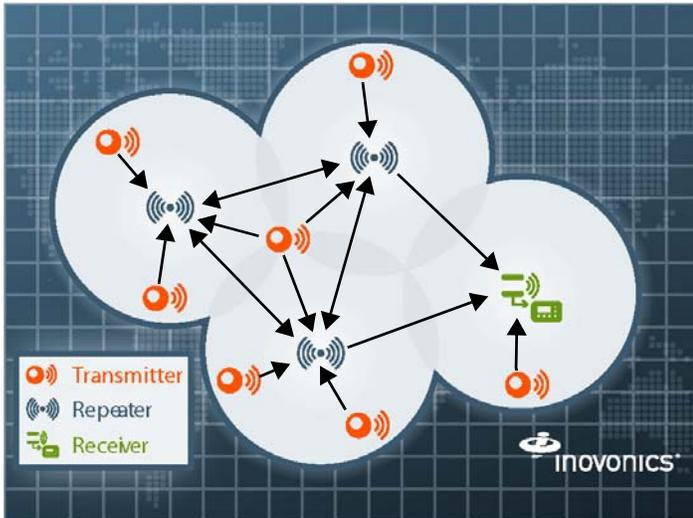

Figure 1 Sample EchoStream System
4. Place a selection jumper on the enable EchoStream selection pins (Fig. 1).